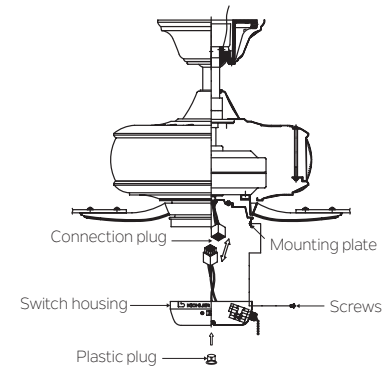

Fig. 19
**Step 1.** Raise the switch housing close to the ceiling fan and connect the square wire connectors from the switch housing and fan. Install the switch housing to the mounting plate with screws provided. (Fig. 19)
**Step 2.** Attach the plastic plug to the switch housing. (Fig. 19)